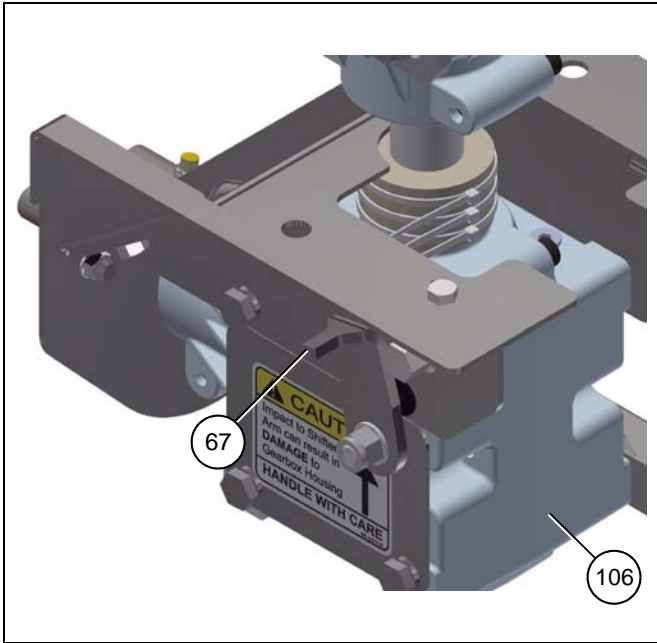
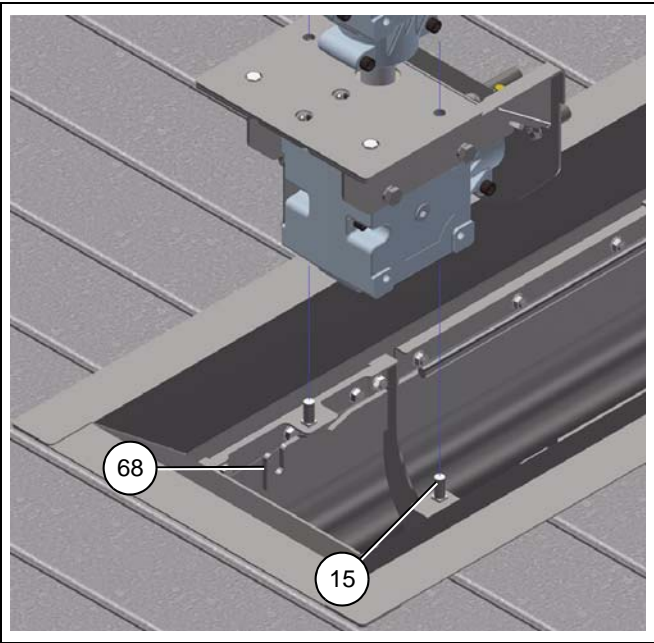

Figure 4Q
Figure 4R
6. Push the center gate (38) partially open. Push flighting forward. Install the gearbox assembly (106) into the unloader ensuring that the shifter arm on the gearbox (67) aligns with the shifter arm slot (68) on the unloader. Gearbox position is aligned by two bolts (15). (See Figure 4Q and Figure 4R.)